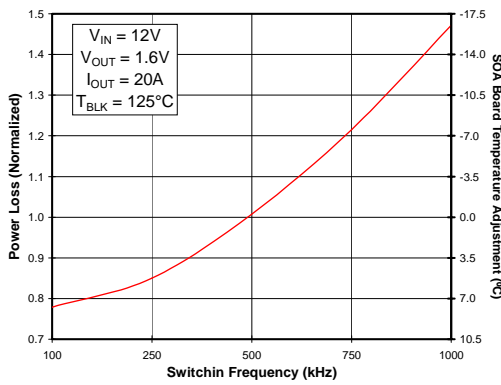

Fig 5. Normalized Power Loss vs. Frequency
- (Fig. 5) Normalized power loss for frequency  $\approx 1.225$
- (Fig. 5) Normalized SOA PCB Temperature for frequency  $\approx -7.5^\circ\text{C}$